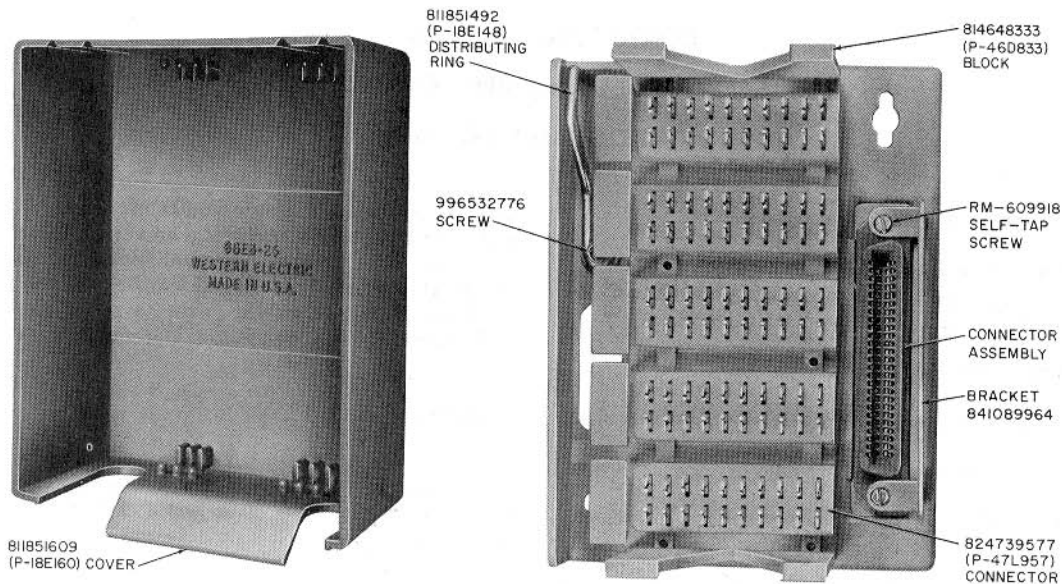

Fig. 1—66E3-25 Connecting Block
**2.03** The 66E3-25 connecting block (Fig. 1) is equipped with a molded plastic housing incorporating a snap-on cover and a cable trough in the base. The block should be mounted on a firm flat surface. Provisions are also made for mounting the block to a standard wall outlet box or overfloor duct by using a 152A adapter.
**2.06** A new bracket design has been incorporated on the 66E3-25 and 66E4-25 connecting blocks for attaching both the low and high silhouette plug or connectors. The new bracket 841089964 (Fig. 1), which contains a diagonal slot, replaces the present P-21E608 bracket. The new slot provides improved retention of the connector and plug to eliminate accidental disengagement resulting from external movement of the cord or connector cable.